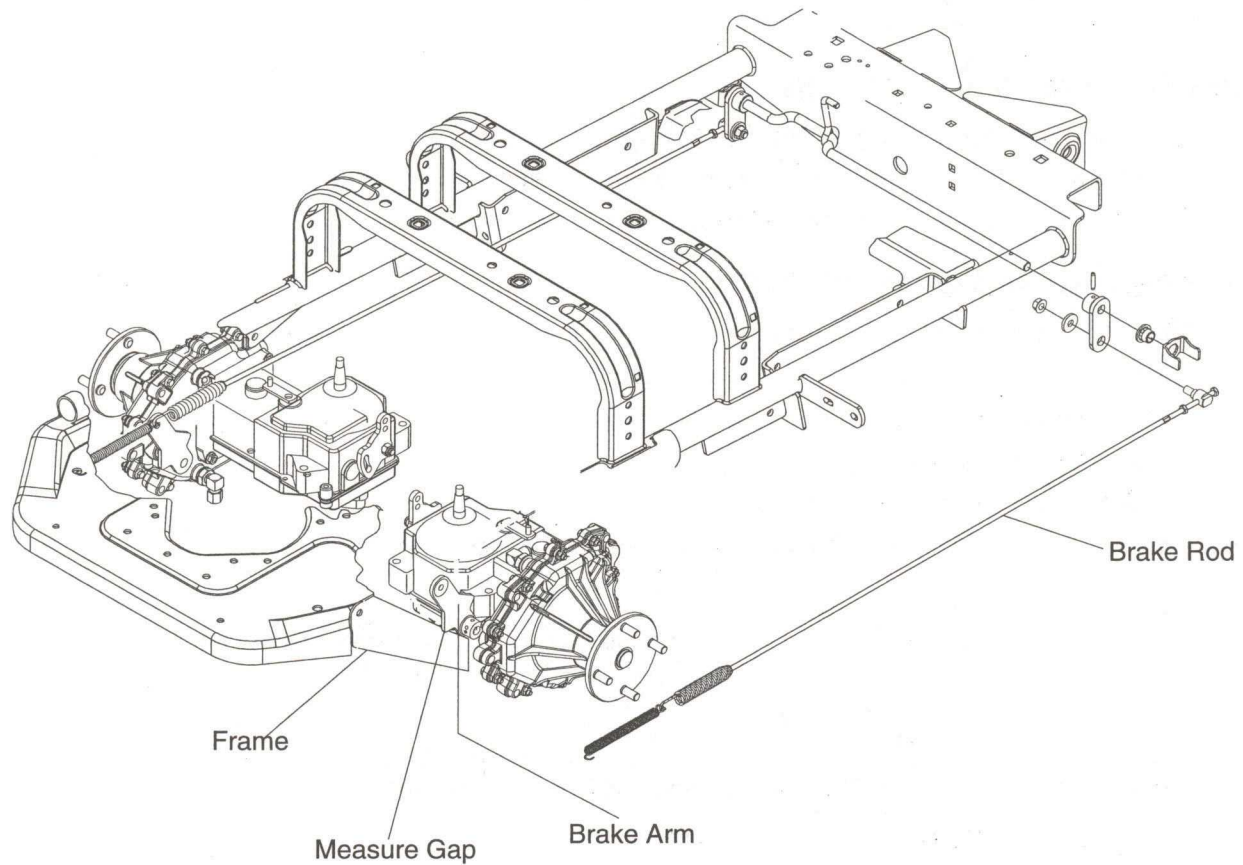

Figure 12
3. From underneath the Z-series directly behind the caster wheel pivot bar, locate the brake rods. There are two, one on the right and one on the left. (See Figure 12)
4. The factory sets a 1/16" gap minimum between the brake arm and frame of the Z-Series. More adjustment may be necessary. (See Figure 12)